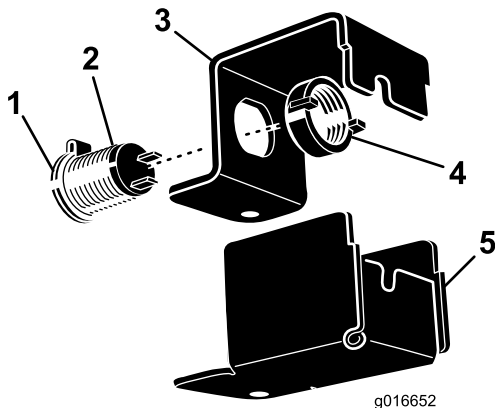

Figure 2
1. Unscrew the nut from the threaded power point connector body (Figure 2).
2. Insert the power point connector body into the hole in the front of the bracket and secure it with the nut previously removed (Figure 2).
7. Close the sealing cap when the power point is not in use (Figure 2).